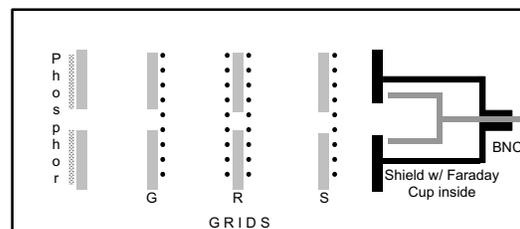

Fig. 4 Diagram of Faraday cup with optional grids and phosphor screen plate
the order that the electrons or ions go through them: ground, retarding, and suppression, labeled G, R and S in the diagram with Fig. 4 on page 2.
- a. For the retarding grid (R in Fig. 4): Connect a 0 to 1000 V power supply (negative for electrons or negative ions, and positive for positive ions) through a vacuum electrical feedthrough to the pins on the second grid plate using Teflon-coated stainless steel wire with a spring connector end.
- b. For the suppression grid (S in Fig. 4): Similarly connect a 0 to 50 V power supply to the pin on the third grid plate.